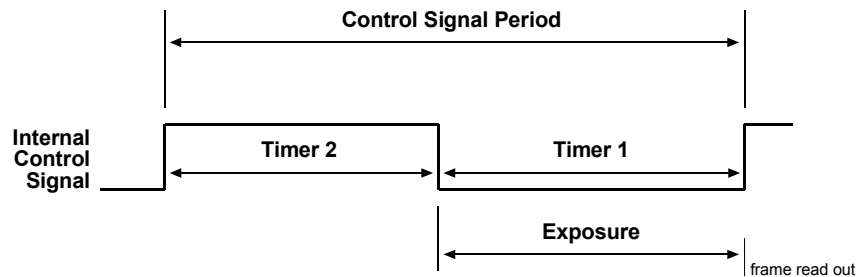

Figure 3-8: Free-run, Programmable Mode
In free-run, no ExSync signal is required. The camera generates a continuous internal control signal based on two programmable parameters: "Timer 1" and "Timer 2." Timer 1 determines how long the internal signal will remain low and the Timer 2 determines how long the signal will remain high (see Figure 3-8). The control signal period is equal to Timer 1 plus Timer 2.
- In **free-run, programmable** mode, the pixels are exposed and charge is accumulated when the internal control signal is low. The frame is read out and transferred on the rising edge of internal control signal (see Figure 3-8).